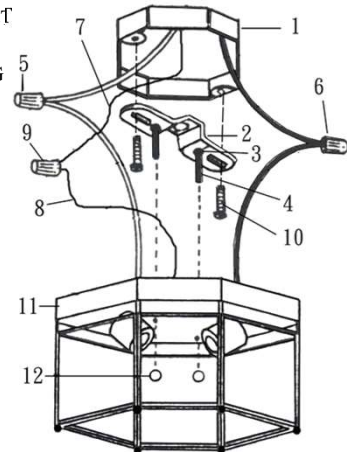

Fig.5
B) If the fixture uses a single 1/8" IPS NIPPLE(4) for mounting, thread the 1/8" IPS HEX NUT(3) onto the NIPPLE, and screw the NIPPLE into the MOUNTING BRACKET(2), without tightening the HEX NUT(3).(Fig.5)
2. Pull the power supply wires out from the OUTLET BOX (1) and mount the MOUNTING BRACKET (2) or the universal mounting plate to the OUTLET BOX(1), using MOUNTING SCREWS(10).
3. Attach the power supply wire to the fixture lead wire by connecting BLACK to BLACK(6), and WHITE to WHITE(5). Connect the FIXTURE GROUND WIRE (8) to the SUPPLY GROUND WIRE(7) using a WIRE NUT(9).
4. Place the CANOPY(11) on the fixture over the OUTLET BOX(1) and onto the fixture mounting screws (or NIPPLE), and adjust the #8-32 fixture mounting screws (or NIPPLE) until they protrude out from the CANOPY(11) 1/4". Remove the CANOPY(11) and secure the position of the fixture mounting screw (or NIPPLE) by tightening the HEX NUT(S)(3) against the MOUNTING BRACKET(2). Place the CANOPY(11) back onto the fixture mounting screws,(or NIPPLE), and secure into place using the DECORATIVE NUT(12) provided.